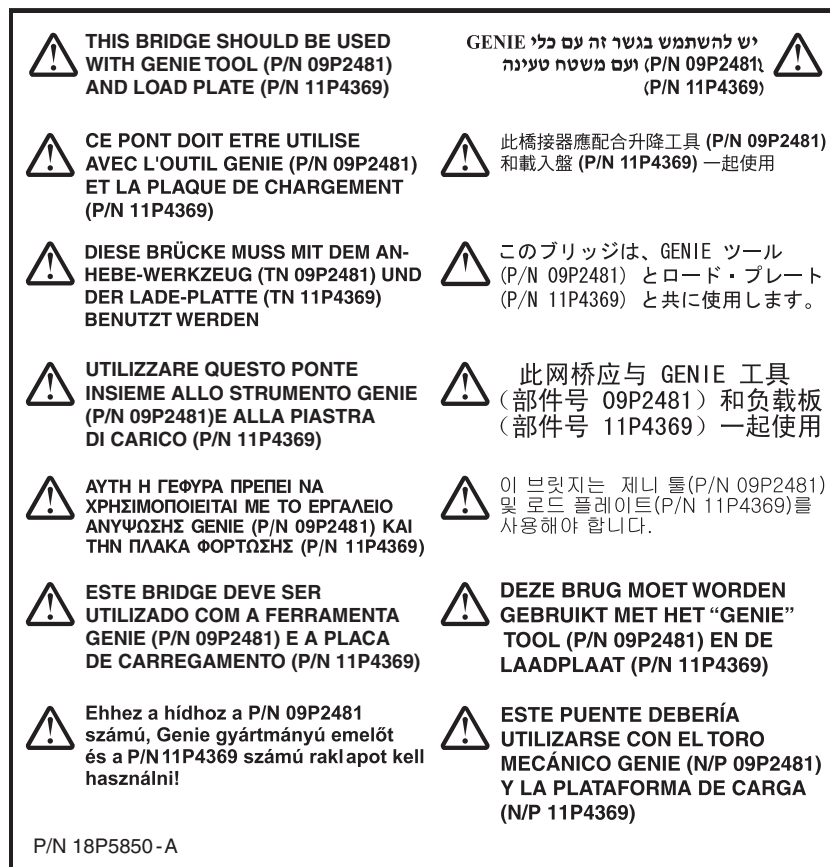

Figure 10. Genie tool and load plate label
- Verify that the genie tool and load plate label shown in Figure 10 is installed on the load plate.